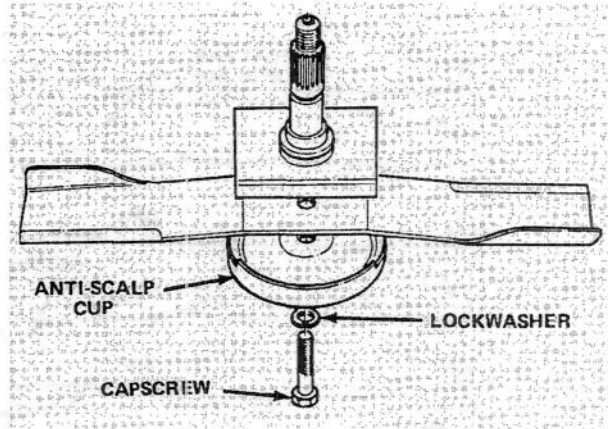

Figure 96
2. Grasp end of blade using a rag or thickly padded glove. Remove capscrew, lockwasher, anti-scalp cup and blade from spindle shaft (Fig. 96).